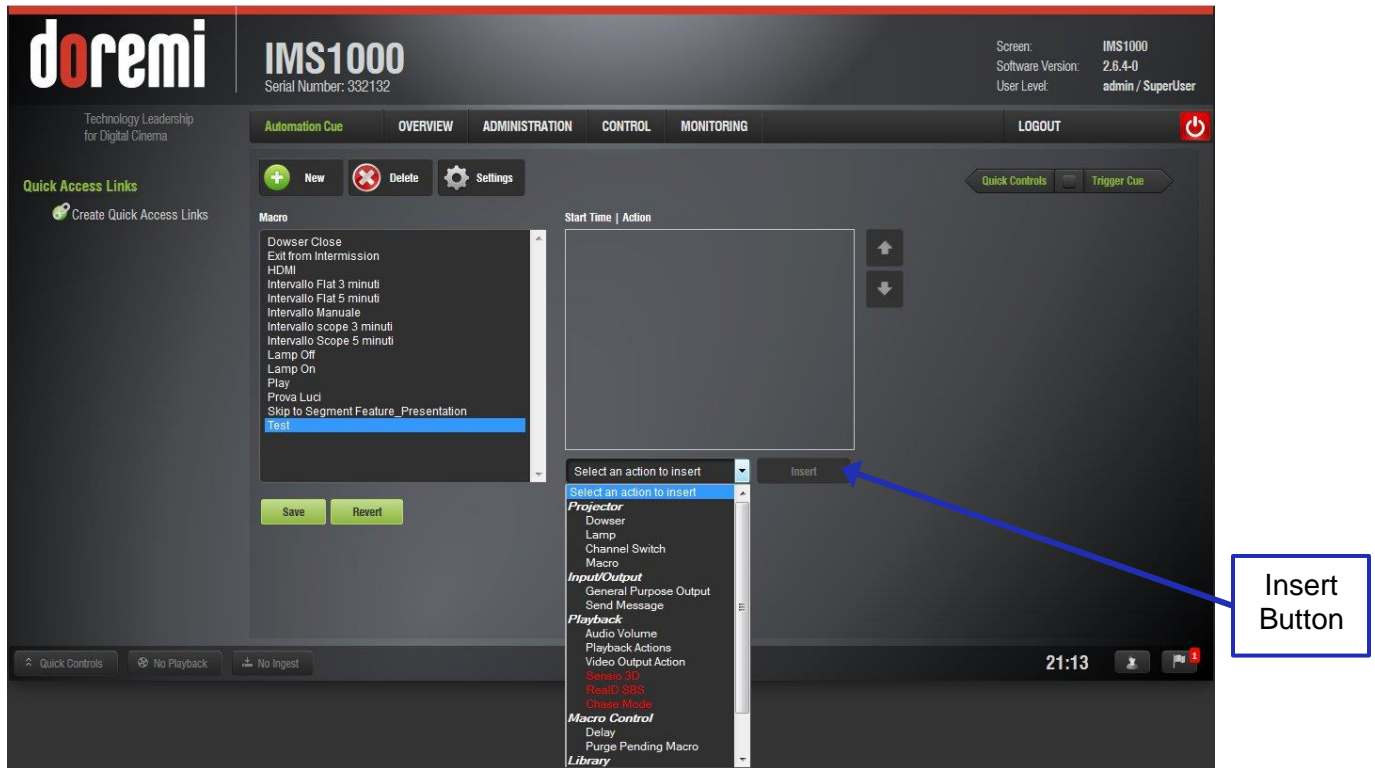

Figure 139: Add a New Action Window
- Click the Select an Action to Insert drop-down menu (Figure 139).
- To add an action to the Macro Automation Cue, click on its corresponding action and click the Insert button (Figure 139).
- Select the General Purpose Output option which is located in the Input/Output section in the Select an Action to Insert drop-down menu (Figure 139).
- Select the Playback Actions option which is located in the Playback section in the Select an Action to Insert drop-down menu (Figure 139).
- Select the Video Output Actions option which is located in the Playback section in the Select an Action to Insert drop-down menu (Figure 139).
- Select the Dowser Action option which is located in the Projector section in the Select an Action to Insert drop-down menu (Figure 139).
- Select the Projector Channel Switch Action option which is located in the Projector section in the Select an Action to Insert drop-down menu (Figure 139).